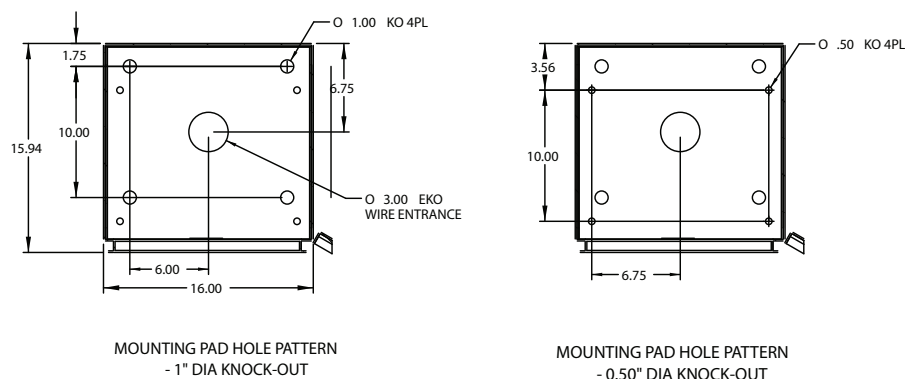

Figure 5.1 – Mounting pad hole patterns
2. Stand-alone using 4 x 1" knock outs for base mount to concrete pad with 3/4" screw anchors (not supplied). See Figure 5.1 for mounting pad hole patterns.
3. Stand-alone using 4 x 1/2" knock outs for mounting to optional pedestal kit with 3/8" screws (supplied in pedestal kit). See Figure 5.1 for mounting pad hole patterns.